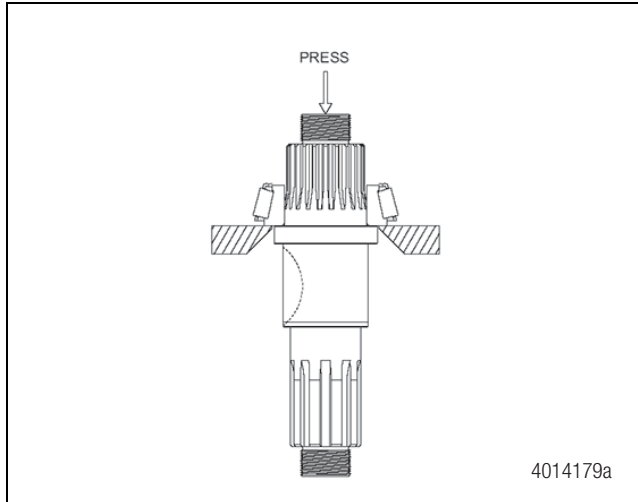

Figure 5.29
- To remove the remaining bearing cone assembly, support under the cone with a bearing separator and press the shaft through the cone. Figure 5.29.